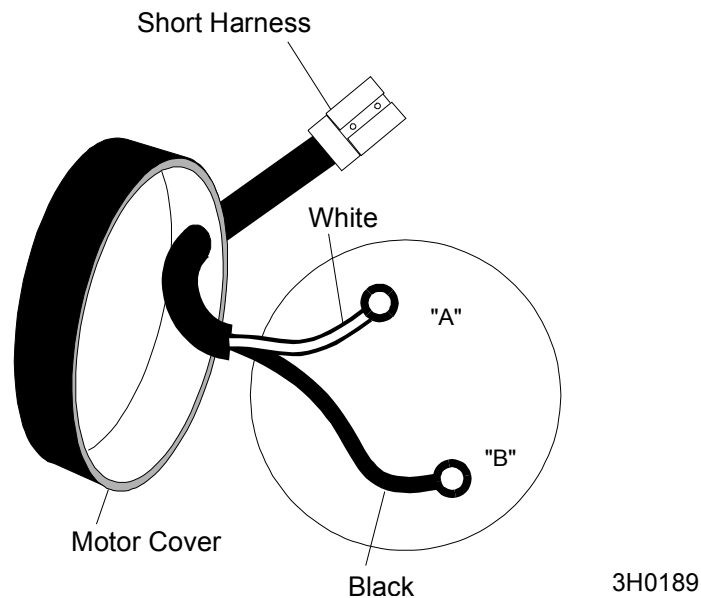

FIG. 1-16
See Figure 1-16.
2. Install the short male harness to the power feed motor. **See Figure 1-16**. Route the harness cable through the motor cover grommet. **NOTE:** A lubricant may be necessary to fit the harness through the grommet.